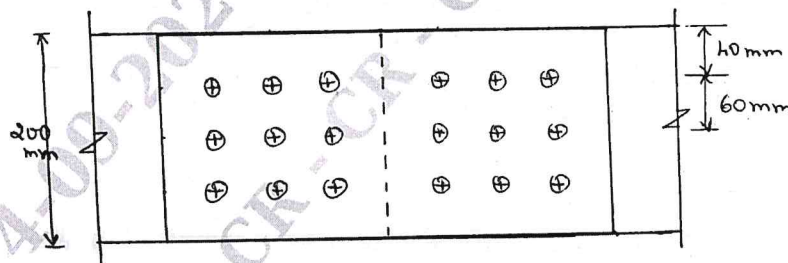

Fig.Q.3(b)
- b. A double cover butt joint is used to connect two flats 200 ISF 10 with 8mm cover plates. The two plates are connected by 9 bolts in chain bolting at a pitch of 60mm and edge distance of 40mm. The bolts are arranged in 3 rows with 3 bolts in each row as shown in the Fig.Q.3(b). Determine the strength and efficiency of the joint. The diameter of the bolts used is 20mm. Assume grade of bolt as 4.6. (Assume both thread and shank to interfere the shear plane). (10 Marks)